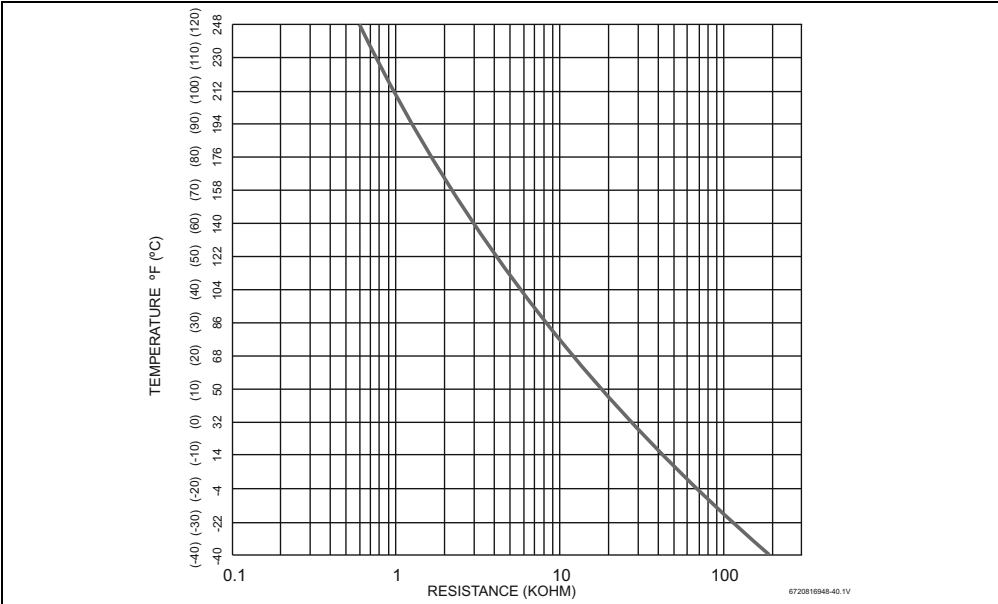

Fig. 51 Inlet, outlet and heat exchanger water temperature sensors characteristics
2) see temperature resistance charts in fig. 51 and 52.